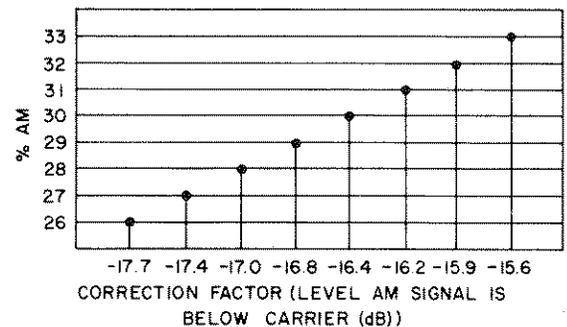

Figure 4-10. Correction Factor Chart
6. Determine the correction factor by difference in amplitude between the 30% amplitude modulation signal level and the unmodulated carrier signal level calculating actual percentage of modulation and referring to the graph in Figure 4-10. To calculate actual percentage divide peak-to-trough amplitude of modulated signal by the peak-to-peak amplitude of the unmodulated signal (5 cm) and multiply by 100.
Example, if the calculated percent of modulation is 30% (step 6) the correction factor will be 16.4 dB (Figure 4-10). Since the minimum level of Incidental AM must be 55 dB below the carrier, the 1 kHz amplitude should decrease by at least 38.6 dB (minimum specification level - correction factor).